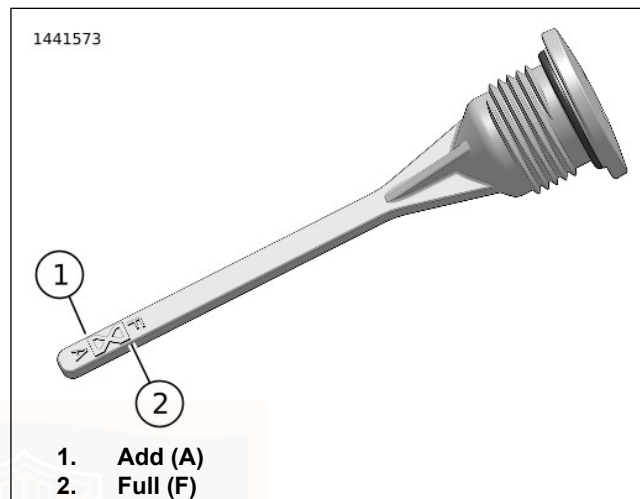

Figure 62. Transmission Lubricant Level
4. See Figure 62. Remove filler plug/dipstick. Check lubricant level on dipstick. Proper oil level is between the Add (A) (1) and Full (F) (2) marks.
1. See Figure 62. Remove transmission filler plug/dipstick.
6. Check lubricant level. Add enough lubricant to bring the level between the add (A) and full (F) marks. See Figure 62.